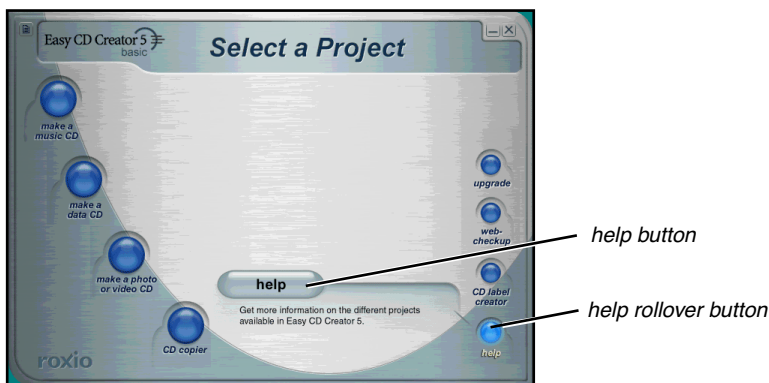

Figure 22. Select a Project Panel: Help Button
The Select a Project panel (Figure 22 on page 22) features a Help button that links to additional information about Easy CD Creator.
1. **On the Select a Project panel (Figure 22 on page 22), position the cursor over the help rollover button in the lower right corner.**